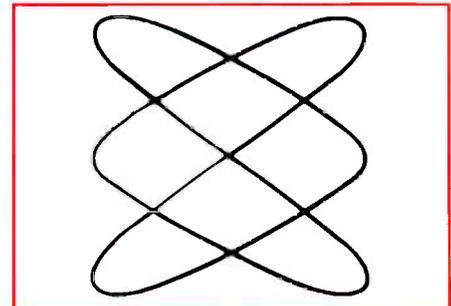

Figure 2. In this Lissajous pattern, the horizontal sinewave frequency is 450Hz. What is the vertical frequency?
Figure 2. Once the coating type has been determined, the removal process can begin. Select the process that will take the least amount of time and effort. Do not remove more coating than is necessary.
Once the coating type has been determined, the removal process can begin. Select the process that will take the least amount of time and effort. Figure 2 and the discussions on removal methods can help make this choice easier. Do not remove more coating than is necessary.
6. Consider the Lissajous pattern of Figure 2. The horizontal sinewave frequency is known to be 450Hz. What is the vertical frequency?